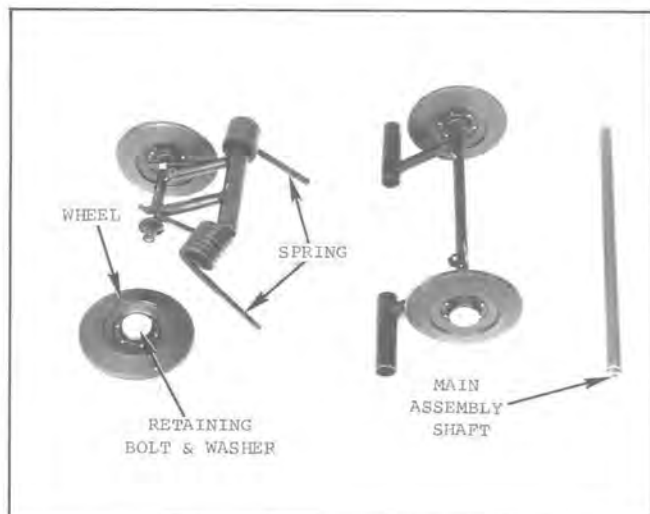

Fig. 82 — Bogie Wheel Assembly — Identification of Parts
- b. Remove bogie wheel as a complete assembly. Disassemble as shown in Fig. 82.
- c. Reassemble and reinstall assembly by reversing the preceeding steps. Make certain that springs are installed so that they are coiled as pictured in Fig. 82. Assembly is installed so that the widest span of wheels is forward.